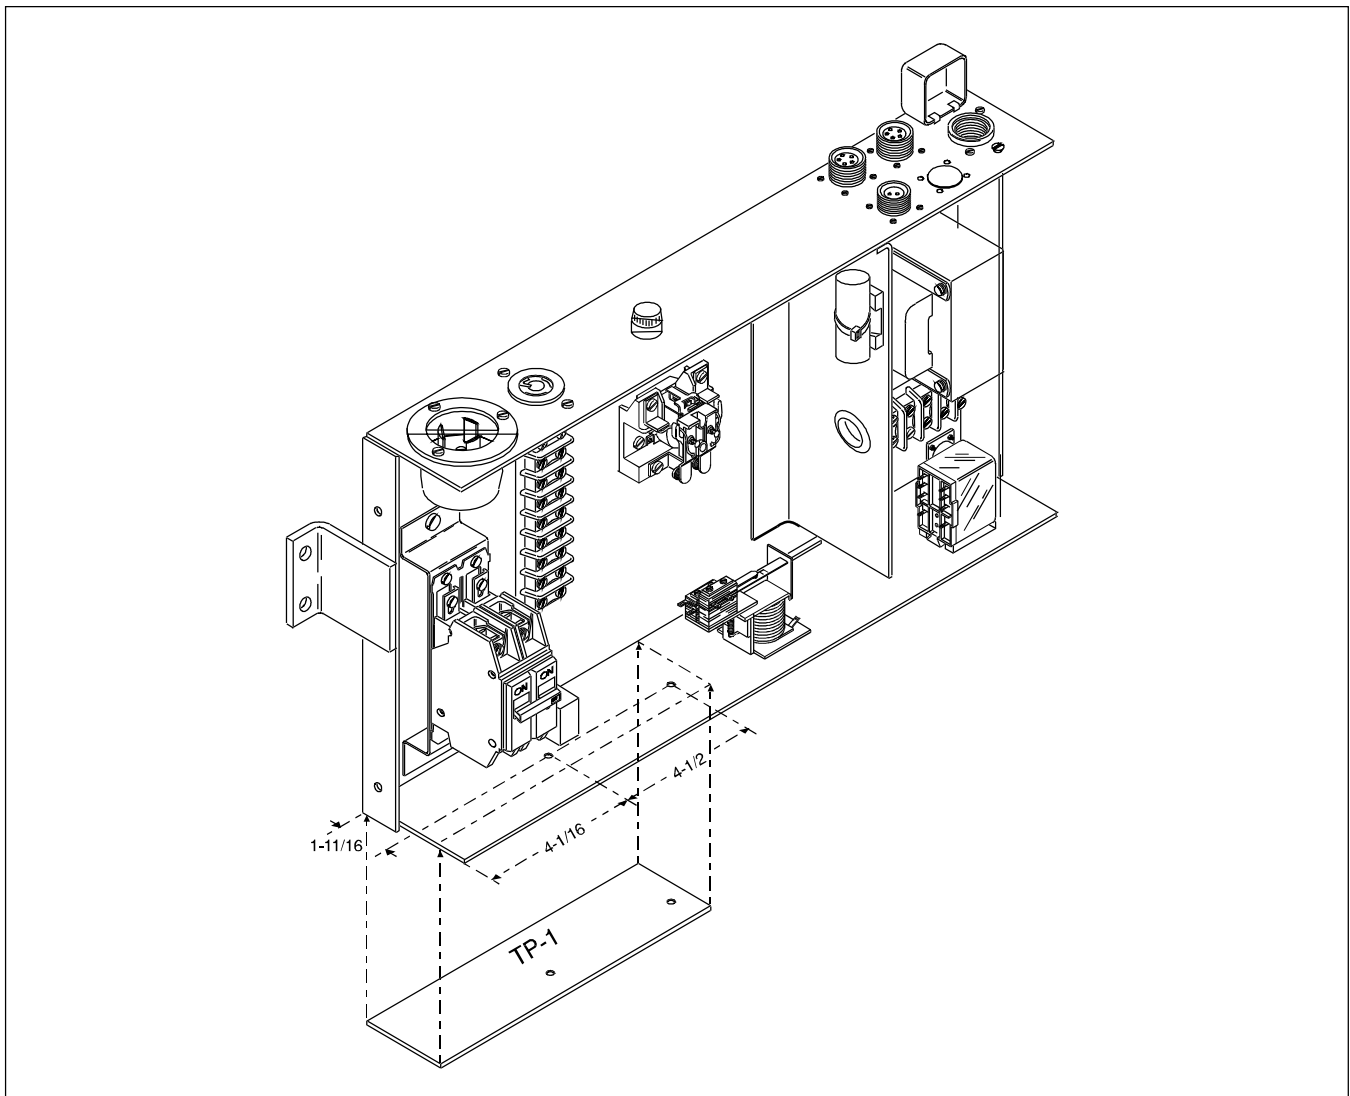

Figure 2. Control Board Template Drilling Diagram
1. Position template TP-1 for drilling the mounting holes for the control board against the bottom of the electrical box (Figure 2). Scribe the two center points.